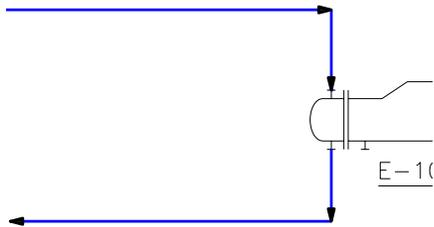

Figure 2-49 The steam inlet line and condensate line of the heat exchanger
- Similarly, create lines connecting the other two nozzles (steam inlet and outlet nozzles) of the heat exchanger, as shown in Figure 2-49. Next, assign tags **6"-CS150-P-2000** and **3"-CS150-SC-2002** to steam inlet line and condensate lines, respectively.